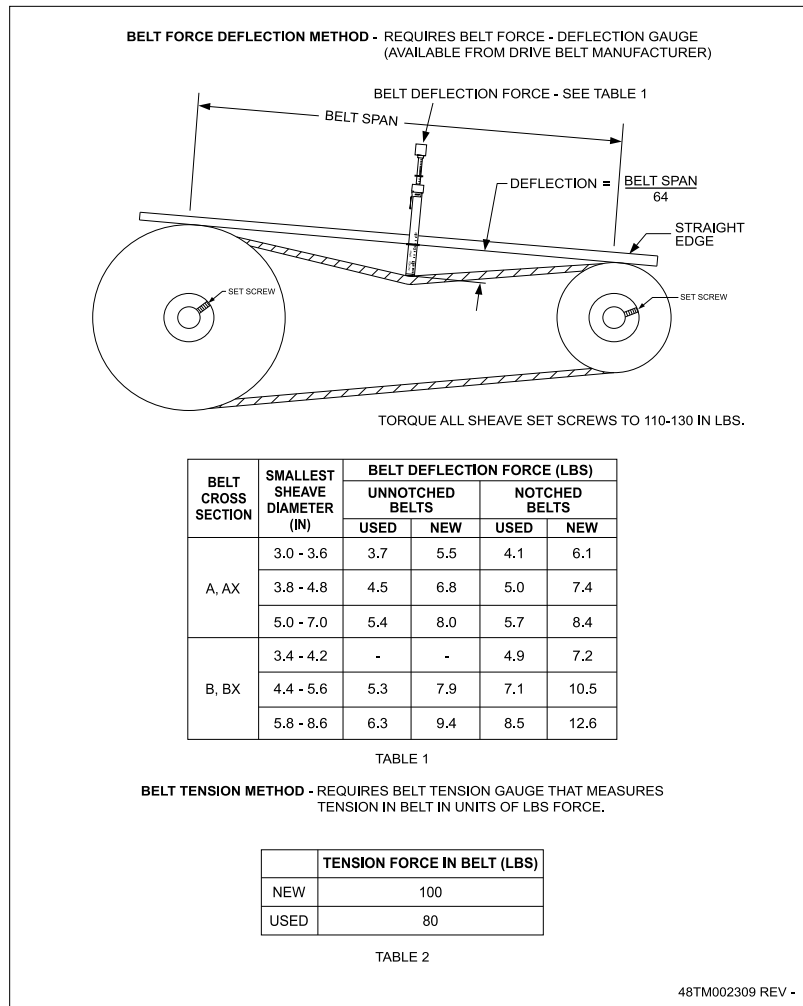

Fig. 63 - V-Belt Force Label
Measure the belt span length as shown in Fig. 63. Calculate the required deflection by multiplying the belt span length by 1/64. For example, if the belt span length is 32 inches: $32 \times 1/64 = 1/2$ inch deflection.
2. Set the tension gauge to the desired tension (see Table 1 in Fig. 63). Place the large O-ring at that point.